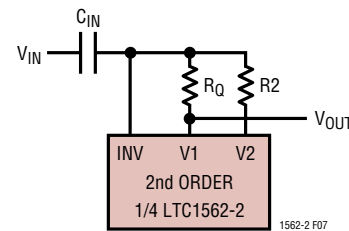
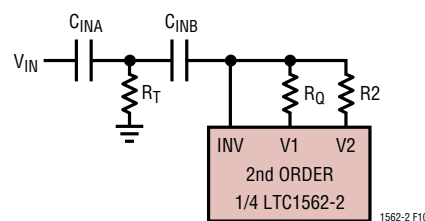

Figure 7. Basic Highpass Configuration
Figure 10. Highpass “T” Input Circuit
When  $Z_{IN}$  of Figure 3 is a capacitor of value  $C_{IN}$ , a highpass response appears at the V1 output (Figure 7).
- Highpass response (capacitor input, V1 output, Figure 7) with  $f_0 > 200\text{kHz}$
A method similar to the preceding technique adds an “extra” highpass pole to any capacitor-input application (such as the bandpass of Figure 6b or the highpass of Figure 7). This method splits the input capacitance  $C_{IN}$  into two series parts  $C_{INA}$  and  $C_{INB}$ , with a resistor  $R_T$  to ground between them (Figure 10). This adds an extra 1st order highpass corner with a zero at DC and a pole at the frequency: